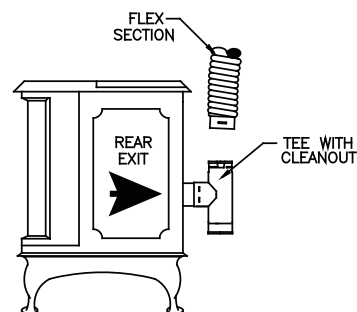

Figure 22
9. If a Tee or Tee Adapter is necessary to make the connection, as shown in **(Figure 22)**, the Tee has a removable Clean out Adapter on its base to enable cleaning. Ensure Tee is adequately supported.